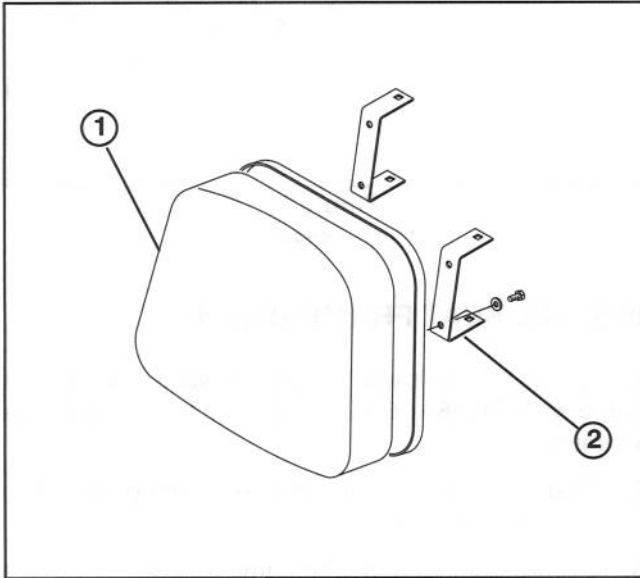

Figure 5
INSTALL SEAT BACK CUSHIONS, MANUAL TUBE AND BED SUPPORT (Fig. 5 – 7)
1. Mount (2) seat back brackets to each seat back cushion with (4) 1/4–20 x 3/4" lg. capscrews and 1/4" flat washers. Position brackets on seat back cushions as shown in figure 5.